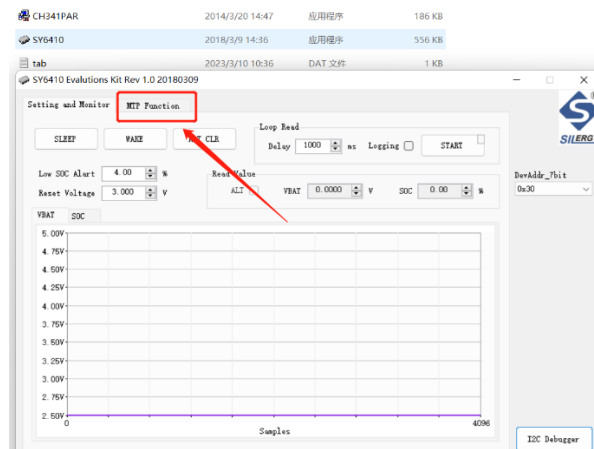

Figure 5 Open MTP Function
(2) Load the Battery Model
a. Click **MTP Function** to write MTP parameters. As shown in Figure 5: